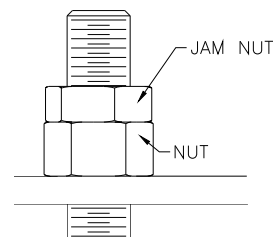

Fig 11 – Cable Jam Nut
- 22) Secure the cables to the top of the column with the nut and jam nut provided, **Fig 11.**